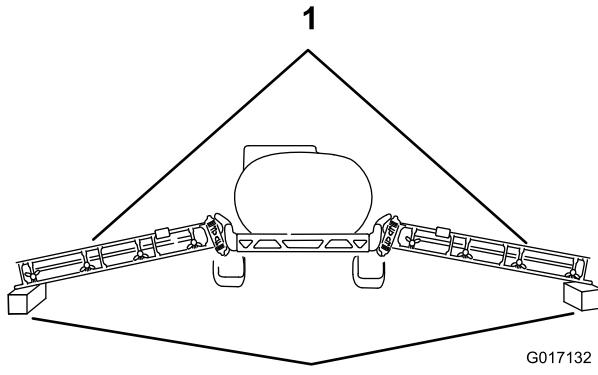

Figure 5
- 3. Carefully lower the booms onto wooden blocks about 10 cm (4 inches) high (Figure 5).